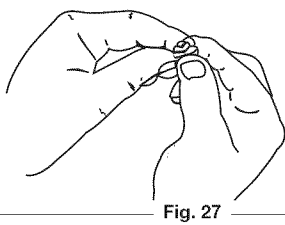

Fig. 27
- Squeeze the filter to spread and remove excess oil (Fig. 27).